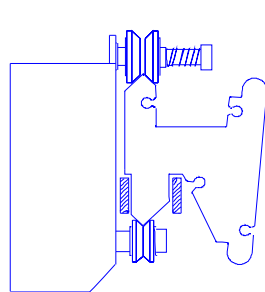

FIGURE 1
Step 5: Remove the (3) allen screws holding the y axis head cover and remove the cover (see figure 1).
Step 5: Remove the (3) allen screws holding the y axis head cover and remove the cover (see figure 1). **Step 6:** .